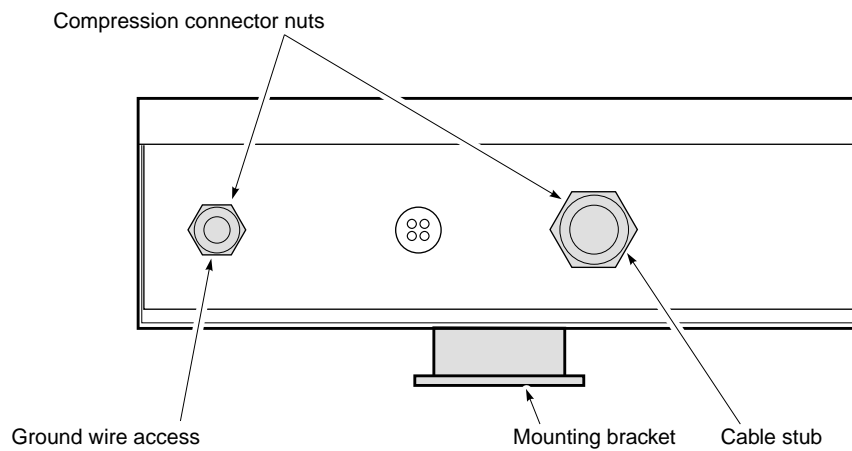

Figure 4. Bottom of the HRE-450 List 4A
- Use your hand to turn the compression connector nuts counterclockwise (see Figure 4 on page 8 for compression connector nut location).